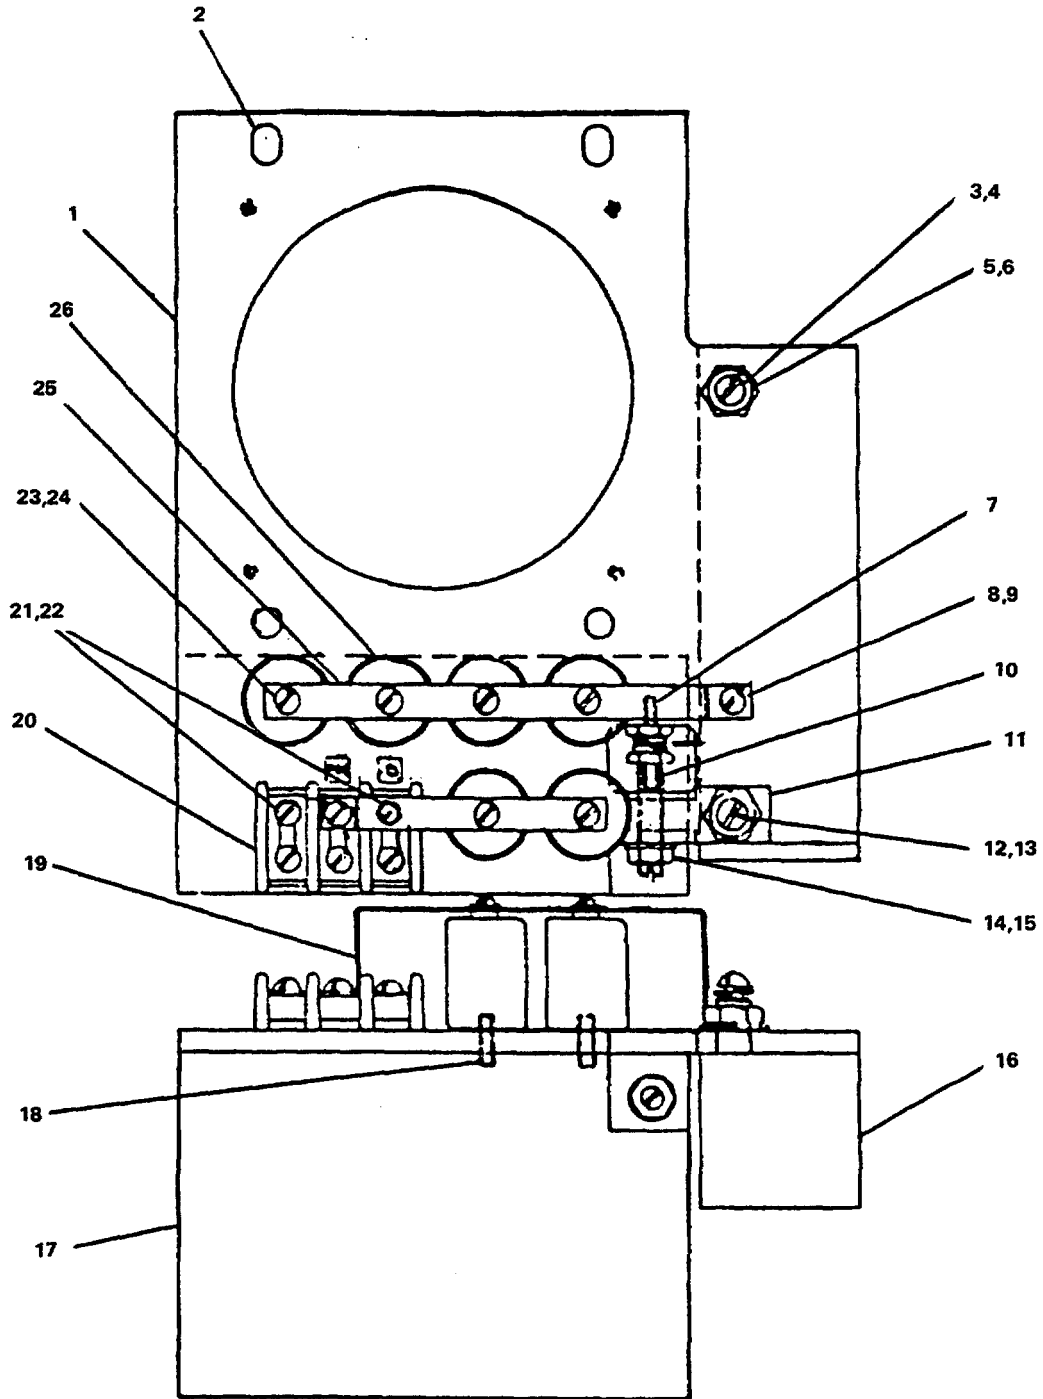

FIGURE 3-50. *Searchlight Starter Assembly.*
- b. Install headless straight pin (10).
- c. Install machine screw (1), lockwasher (2), and clamp (3).
- d. Install bearing (7), spacer (9), and lubrication fitting (8).
- e. Install hexagon capscrew (6), lockwasher (5), and flat washer (4).
**3-49. Replace/Repair Searchlight Starter Assembly. (Figure 3-50)**